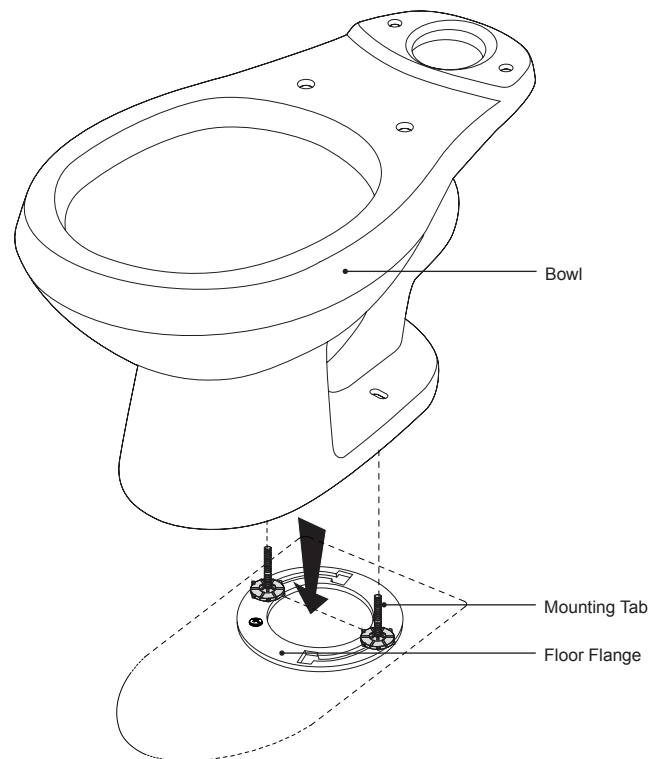

Figure 5
**1** One person should lower the toilet down, while the second person should guide the tapered flange into the floor flange opening (Figure 5).